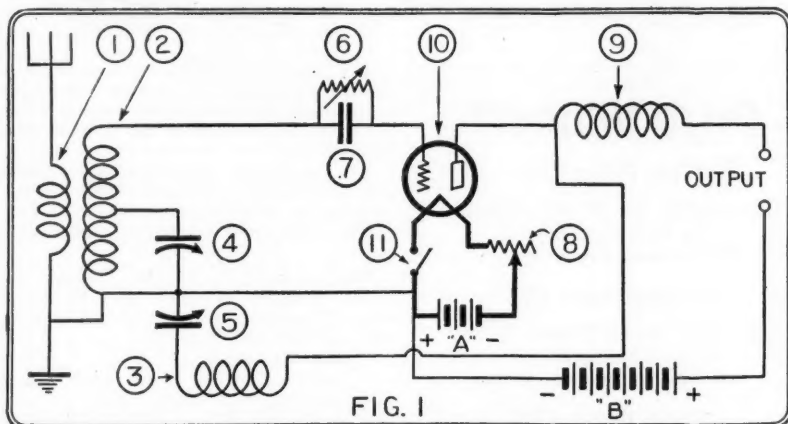

FIG. 1
**Absolute freedom from body capacity:** this is obtained by placing both variable condenser rotors at ground potential, as can be seen from the circuit diagram (Fig. 1).